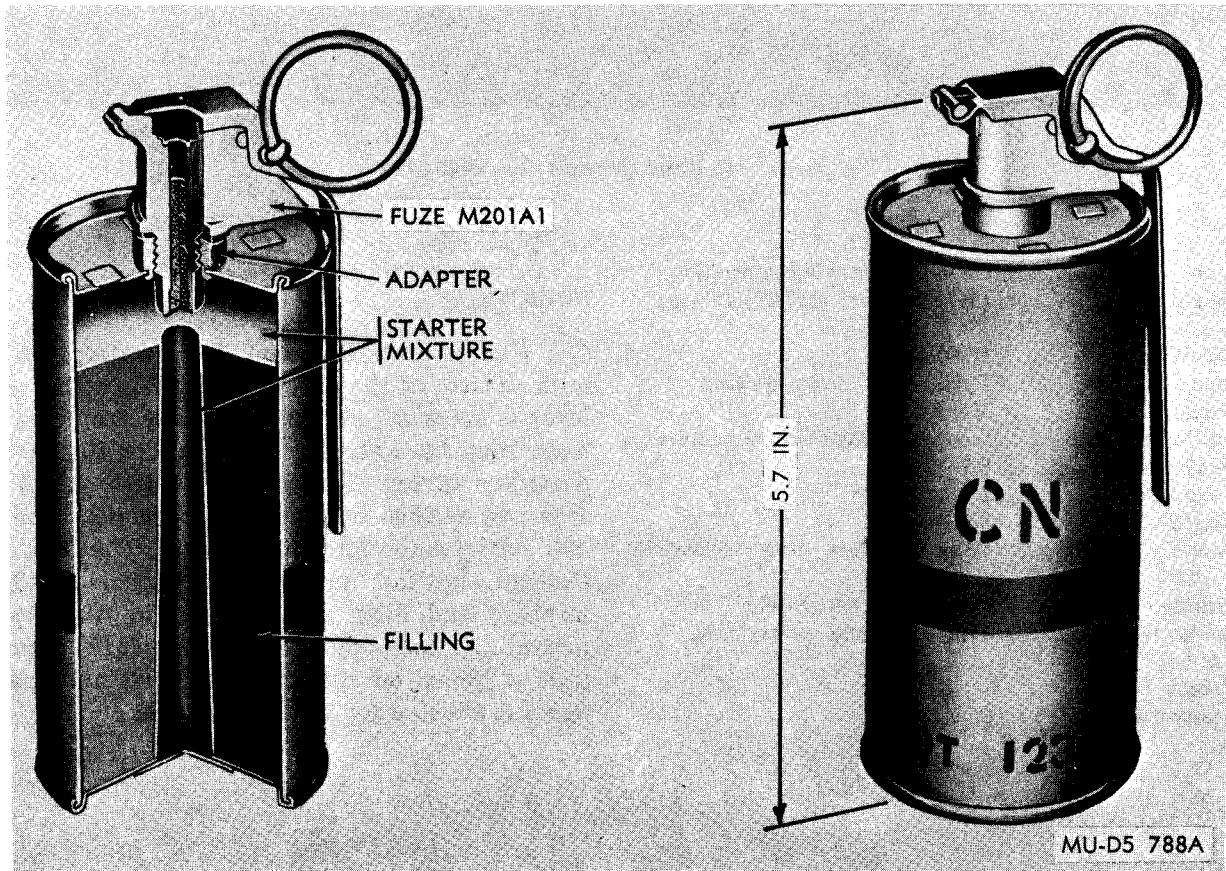

Figure 2-15. CN riot hand grenade M7A1.
a. *General.* Grenade M7 and Grenade M7A1 (fig. 2-15) are burning type riot control agent grenades and may be used to simulate casualty agents during training. CN has a powerful lachrymal effect and is irritating to the upper respiratory passages. In higher concentrations it is irritating to the skin, causing a burning and itching sensation. The onset of incapacitation is 15 to 30 seconds and duration from 5 to 20 minutes depending upon dosage concentration.
a. General. Grenades M7A2 and M7A3 are similar in appearance to the M7A1 (fig. 2-15). They are burning type riot control agent grenades and may be used to simulate casualty agents during training. CS has a powerful lachrinal effect and is irritating to the upper respiratory passages causing coughing, difficulty in breathing and chest tightness. Heavy concentrations will cause nausea and vomiting as well. The onset of incapacitation is 15 to 30 seconds and duration is less than 10 minutes after personnel is removed to fresh air. CS is more persistent and has a more severe reaction than CN.